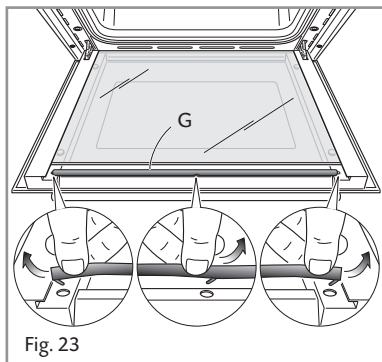

Fig. 23
- **Top oven door only:** Remove the seal **G** by unhooking the no. 3 fixing hooks (fig. 23).